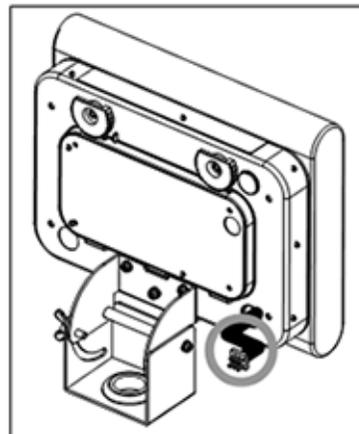

Fig. 3-3 View of Indicator Connector
- ② The connector for relaying purpose comes out of the indicator as shown in **Figure 3-3 View of indicator Connector**. Connect this connector to that of the load cell and put it back into the indicator. Then fasten the cable bush.